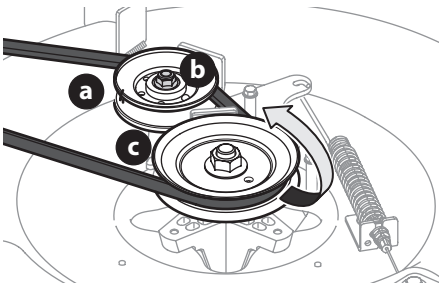

Figure 39
- Loosen the idler pulley (24" decks only) (a) by loosening the flange lock nut (b) that secures it, enough to allow clearance for the belt to move past it and off. Remove the belt by working it off of the deck drive pulley (c) and idler pulley (a) (Figure 39).